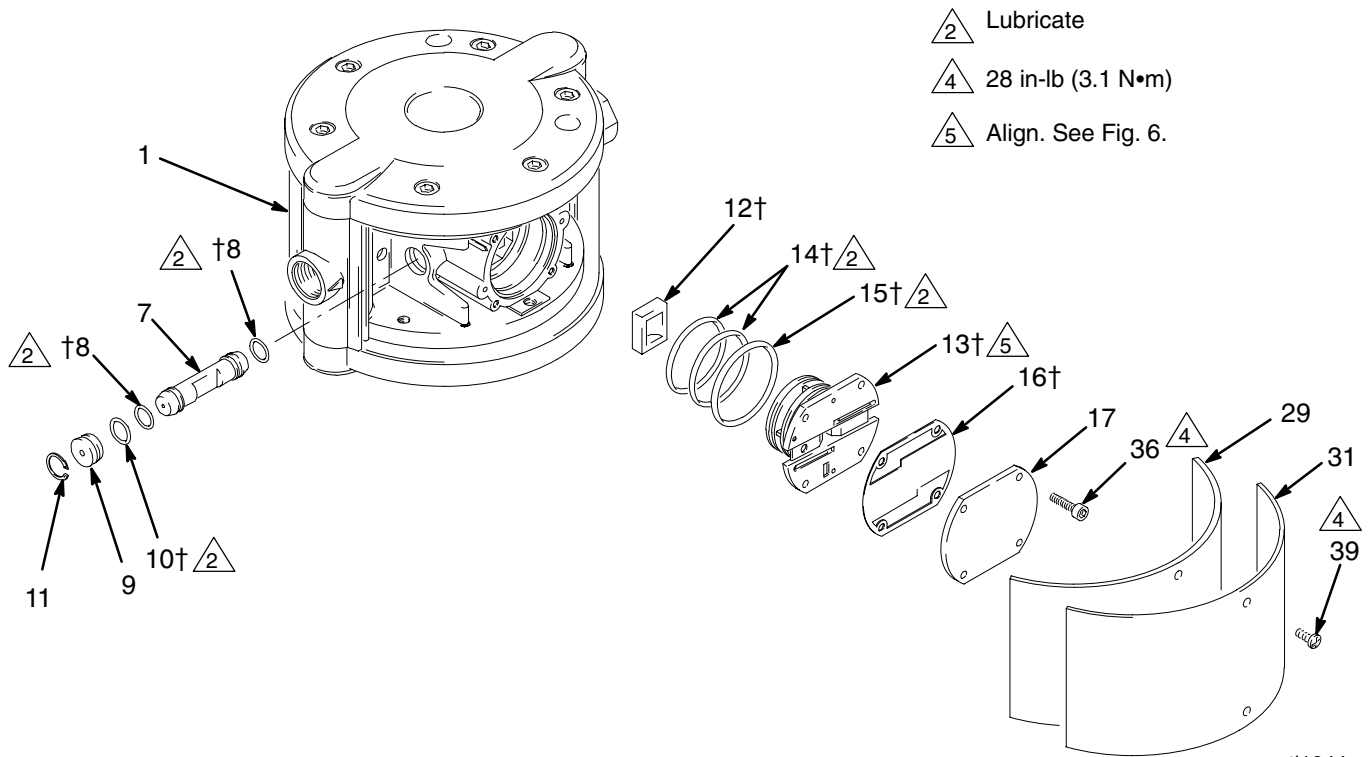

Fig. 7
1. Remove the side cover (31) and felt dampener (29).
2. Remove the four screws (36), air valve cover (17), and gasket (16). See Fig. 7.
3. See Fig. 6. Note the orientation of the air valve plate (13). Pull the plate out of the center housing (1). Remove the three o-rings (14, 15) from the plate. See Fig. 7.
4. Remove the air valve cup (12) from the center housing (1).
5. Remove the retaining ring (11) and plug (9), and slide the carriage (7) from the center housing (1). Remove the o-rings (8, 10) from the carriage and the plug.
1. Lubricate the o-rings (8†) and install them on the carriage (7). Slide the carriage into the center housing (1) so the notch faces out, as shown in Fig. 7.
2. Lubricate the o-ring (10†) and install it on the plug (9). Insert the plug in the hole to secure the carriage (7). Install the retaining ring (11) to hold these parts in place.
3. Install the air valve cup (12†) in the notch of the carriage (7) so the open side faces out.